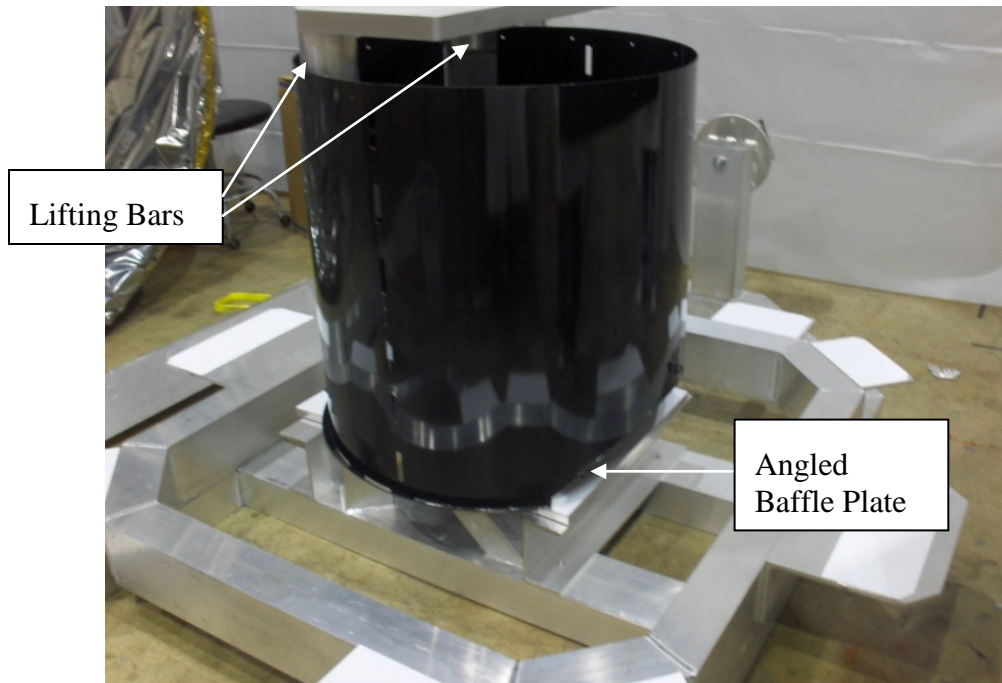

Figure 4: Center Cylinder placed on Lift/Assembly Fixture
3. Place the center cylinder (D1001348) onto the Lift/Assembly Fixture, as shown in Figure 4. The angled baffle plate that is welded to the inside of the cylinder, which is at the bottom of the baffle, must be exactly opposite the lifting bars of the Lift/Assembly Fixture.